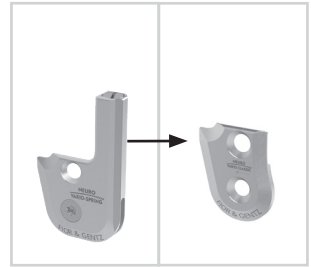

fig. 22
- 2 Mount the cover plate of the NEURO VARIO-CLASSIC system joint in the correct system width (fig. 22).